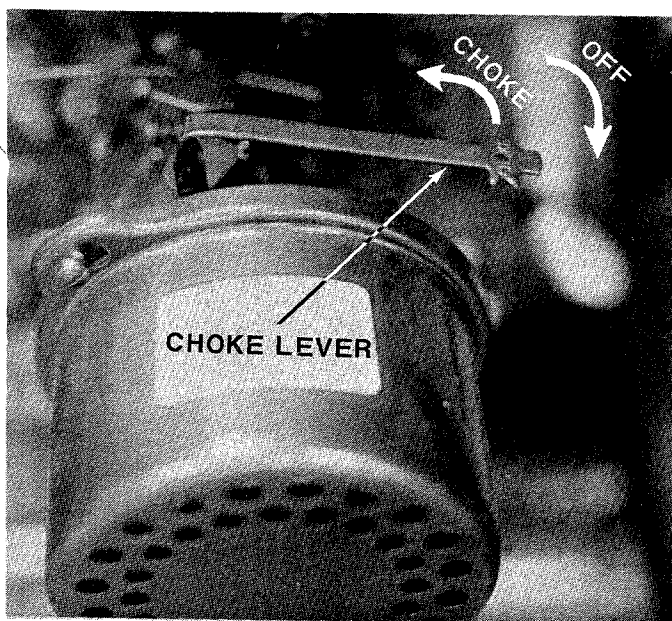

FIGURE 9
2. Move choke lever to **CHOKE** position. See figure 9.